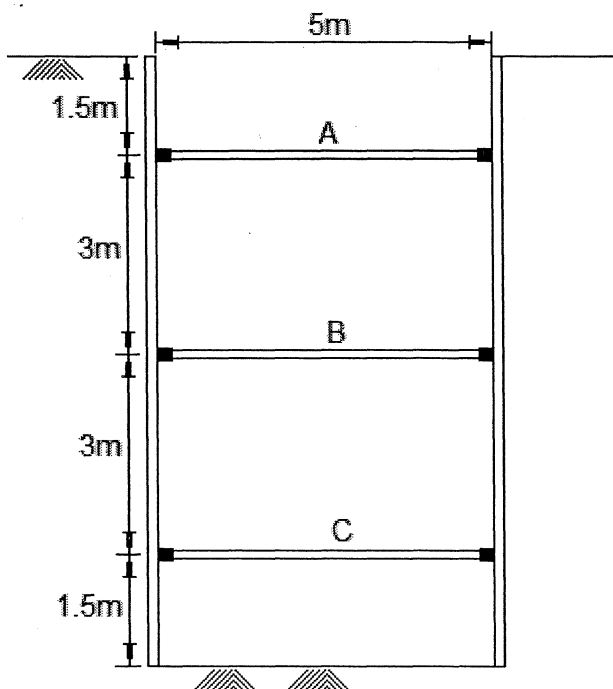

Figure 6a. Excavation supported by sheet-pile wall.
6. Figure 6a shows a braced excavation in a sandy soil, where struts are placed at centre to centre distance of 1.2m along the excavated face. The natural water table is well below the excavated depth. Soil properties: $\gamma_{\text{bulk}} = 17 \text{ kN/m}^3$; $\phi' = 32^\circ$; $c' = 0$. Figure 6b gives an extract from BS8002: 1994.